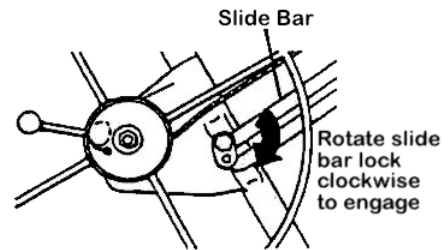

Figure 5
5. Press the winch assembly slightly back toward the frame. This automatically engages the slide bar lock to keep the winch fully extended (Figure 5).